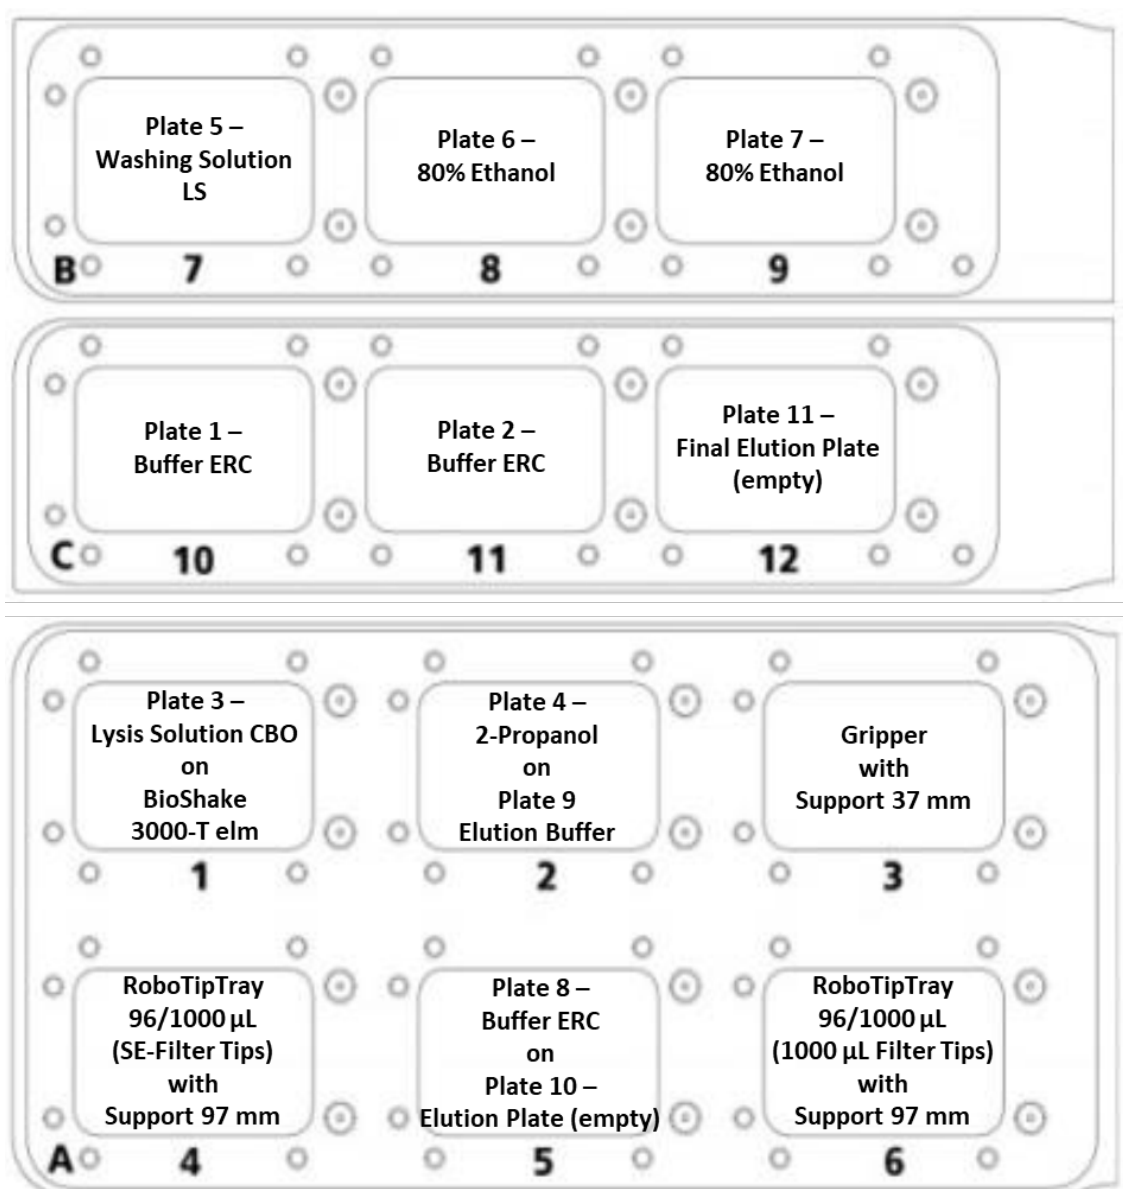

Figure 10: Deck layout for the extraction of 600–1000 µL sample material.
3. Load all plates and accessories onto CyBio FeliX decks according to Figure 10. As a final Elution Plate (position 12) multiple options are possible: